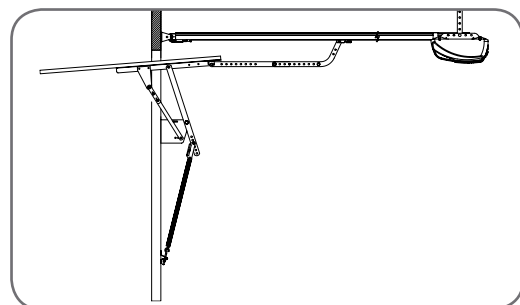

Fig. 24
- a. Assemble the bent and straight arms as shown in (Fig. 24) with bolts and nuts supplied in the accessory pack. Always use both the bent and straight arms.